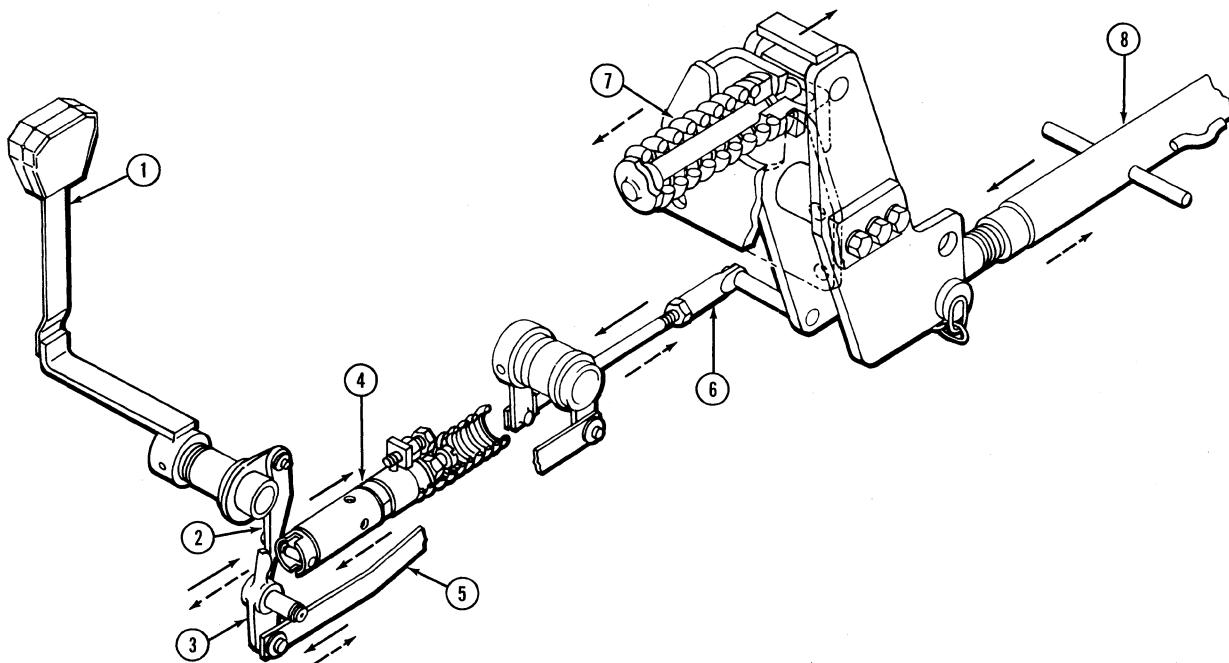

Figure 26
### 1. Link Operation With a Compressive Force Received From the Top Link (Figure 26)
### 3. Link Operation With Various Draft Control Settings (Figure 26)
When the tractor passes the soft ground, pressure is applied on the responsive spring, activating cam B (3), (Figure 26) and lifting the plow.